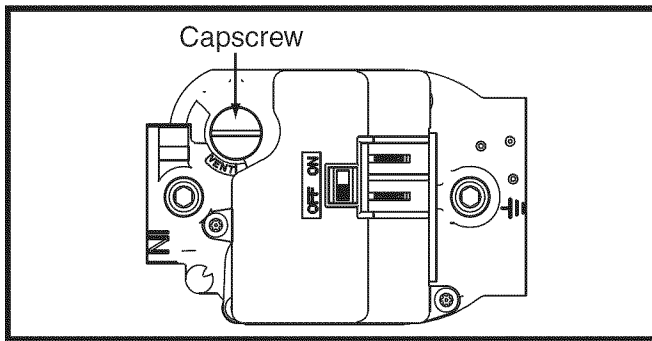

Figure 30. Regulator Capscrew
- b.) Remove the regulator capscrew (Figure 30, page 30) from the INLET side of the regulator.